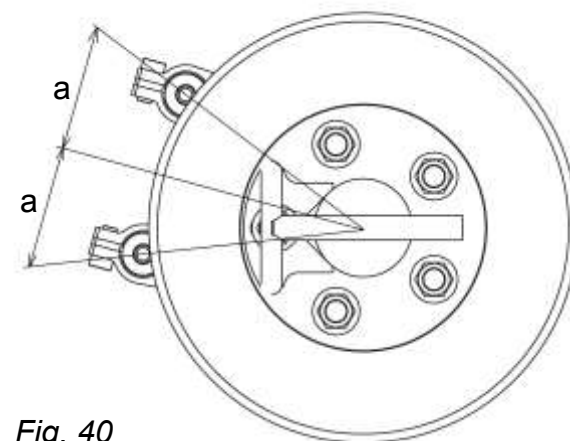

Fig. 40
5. Position the slide piece in the center of the hub. Then hand tighten the UMA mounting adapter M10 bolts, Fig. 40.